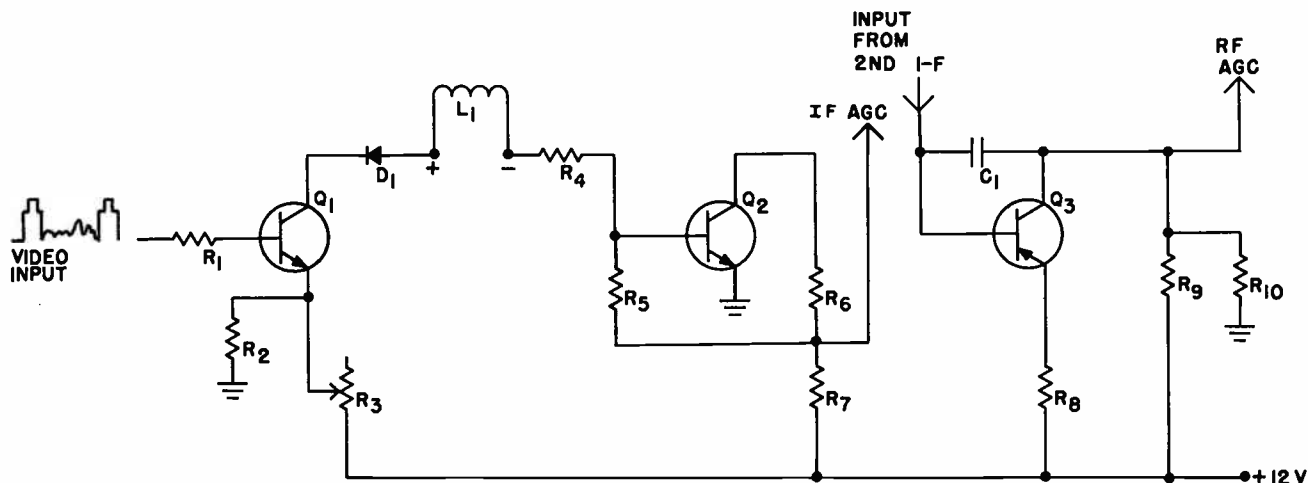

Fig. 12. A transistor agc circuit.
A transistor keyed agc circuit is shown in Fig. 12. In the receiver in which this agc circuit is used, there is sufficient resistance in the collector circuits in the first and second video i-f stages so that an increase in current through these stages will reduce the collector voltage and thereby reduce the gain of the stages. The keyed agc system shown in Fig. 12 is designed to provide an increase in the forward bias applied to the i-f and rf stages.
- (n) Does an increase in signal in Fig. 12 result in an increase or decrease in the forward bias on the i-f stages?